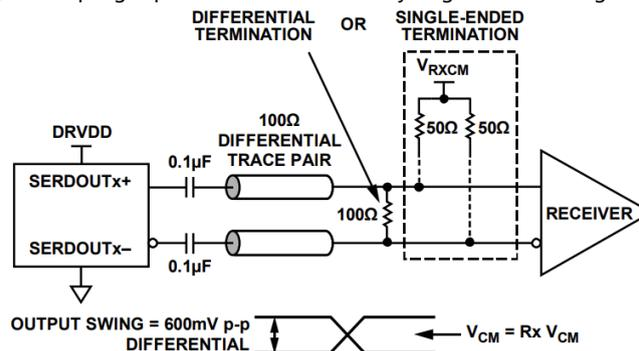

Figure 33. Example of AC - coupled digital output termination
4. Remapping converters (logical channels) and SERDOUTx ± (physical channels) allocation: registers 0x82 and 0x83. Figure 33 shows a simplified functional block diagram.
**Digital Outputs and Timing** - This product features differential digital outputs by default upon power-up. Driver current is derived from the chip, setting the output current at each terminal to the nominal value of 4mA. Each output has a 100K dynamic internal termination resistor to reduce reflection interference. Placing a 100K differential termination resistor at the input of each receiver enables a nominal 600mVp-p receiver differential swing (see Figure 33). A single-ended 50K termination resistor can also be used. When using a single-ended termination resistor, the termination voltage must be  $DRVDD/2$ ; additionally, AC coupling capacitors terminated to any single-ended voltage can be used.